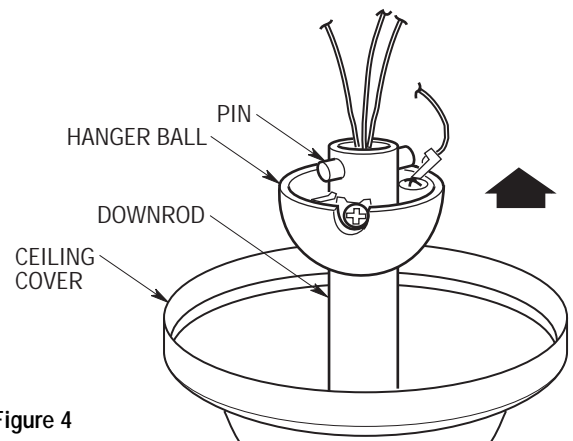

Figure 4
- 7. Position the ceiling cover over the downrod. Be sure the cover is oriented correctly, with the large opening at the top (Figure 4).
8. Reinstall the hanger ball on the downrod (Figure 4) as follows. Route the motor leads through the hanger ball and slide the hanger ball over the downrod. Install the pin through the holes at the top of the downrod and slide the hanger ball up the downrod, aligning the ball so the pin is captured in the groove in the top of the hanger ball. Pull the hanger ball up tight against the pin and securely tighten the setscrew in the hanger ball. A loose setscrew could create fan wobble.